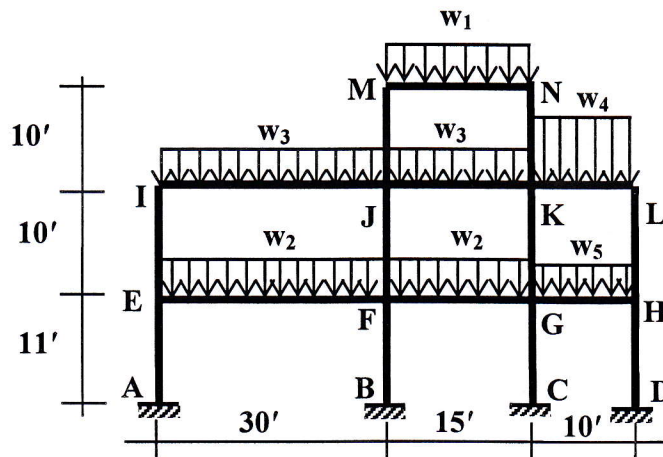

Figure 1
- [1] What are the assumptions for the vertical load analysis of Frames? Draw the approximate **Shear Force and Bending Moment Diagram** of EF, FG, and KL shown in Figure 1? Given,  $w_1 = 1.25 \text{ k}'$ ,  $w_2 = 2.5 \text{ k}'$ ,  $w_3 = 3 \text{ k}'$ ,  $w_4 = 8 \text{ k}'$ ,  $w_5 = 2 \text{ k}'$ .